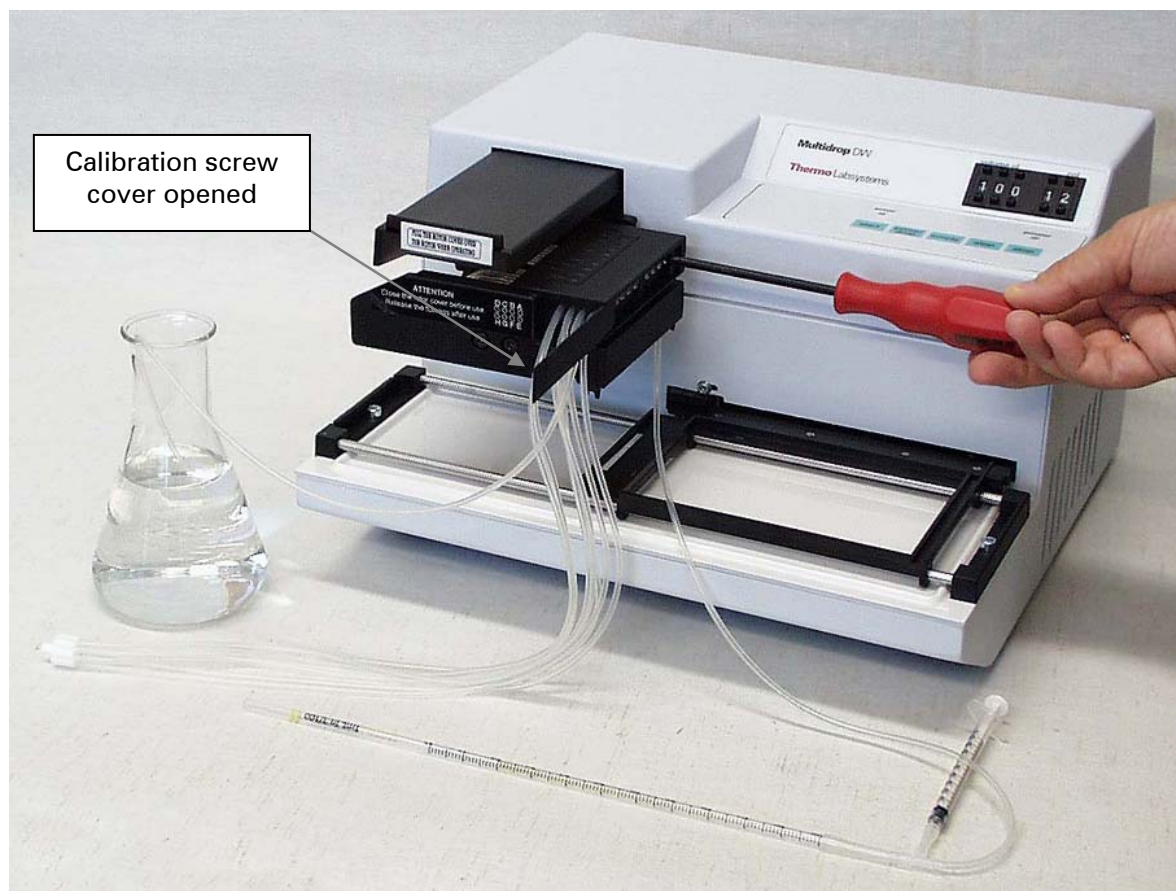

Fig. 7.7 Screwing the calibration screws according to the calibration results
7. Open the calibration screw cover on the upper part of the cassette (*Fig. 7.7* and *Fig. 4.4*).
13. If the volume is higher than 1000 μl , turn the calibration screw (Fig. 7.7) clockwise with a screwdriver; one turn for each 10 μl (1% from the volume dispensed); if the volume is lower than 1000 μl , turn in the opposite direction.